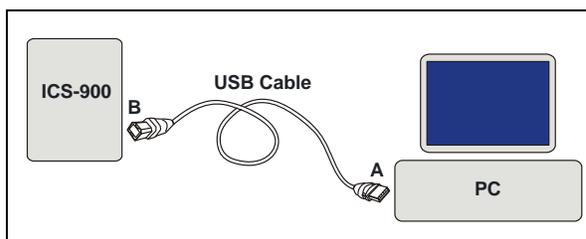

Figure 13. Example connections:
2. Plug the USB cable's "A" connector into the USB port on the PC (see Figure 13).